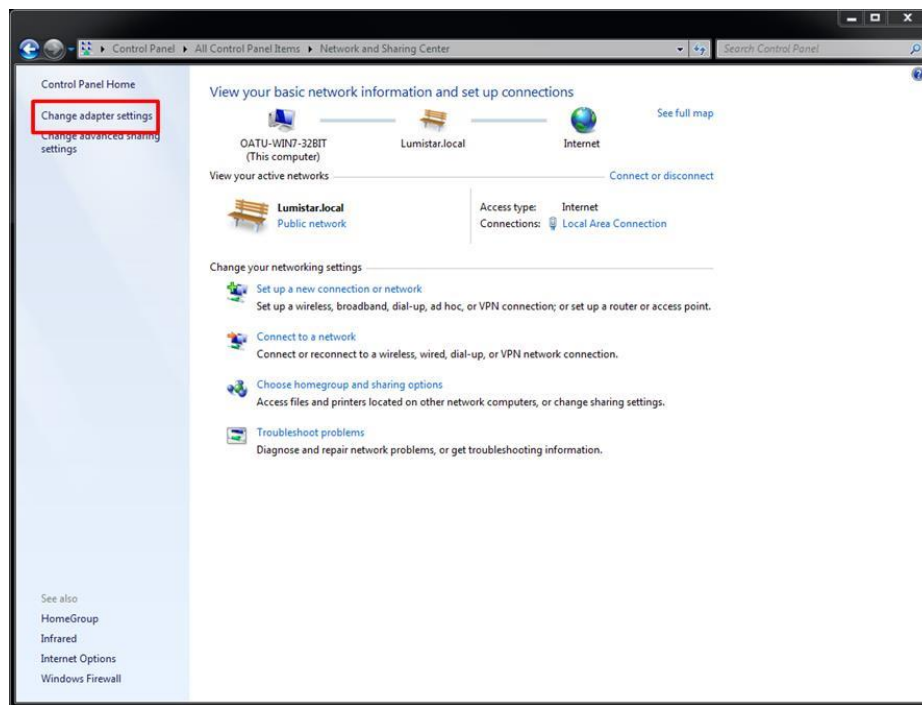

Figure 2-1 Windows Network and Sharing Page
Step 4: From Network and Sharing Center, select the "Change adapter settings" option from the left-hand menu. See Figure 2-1.